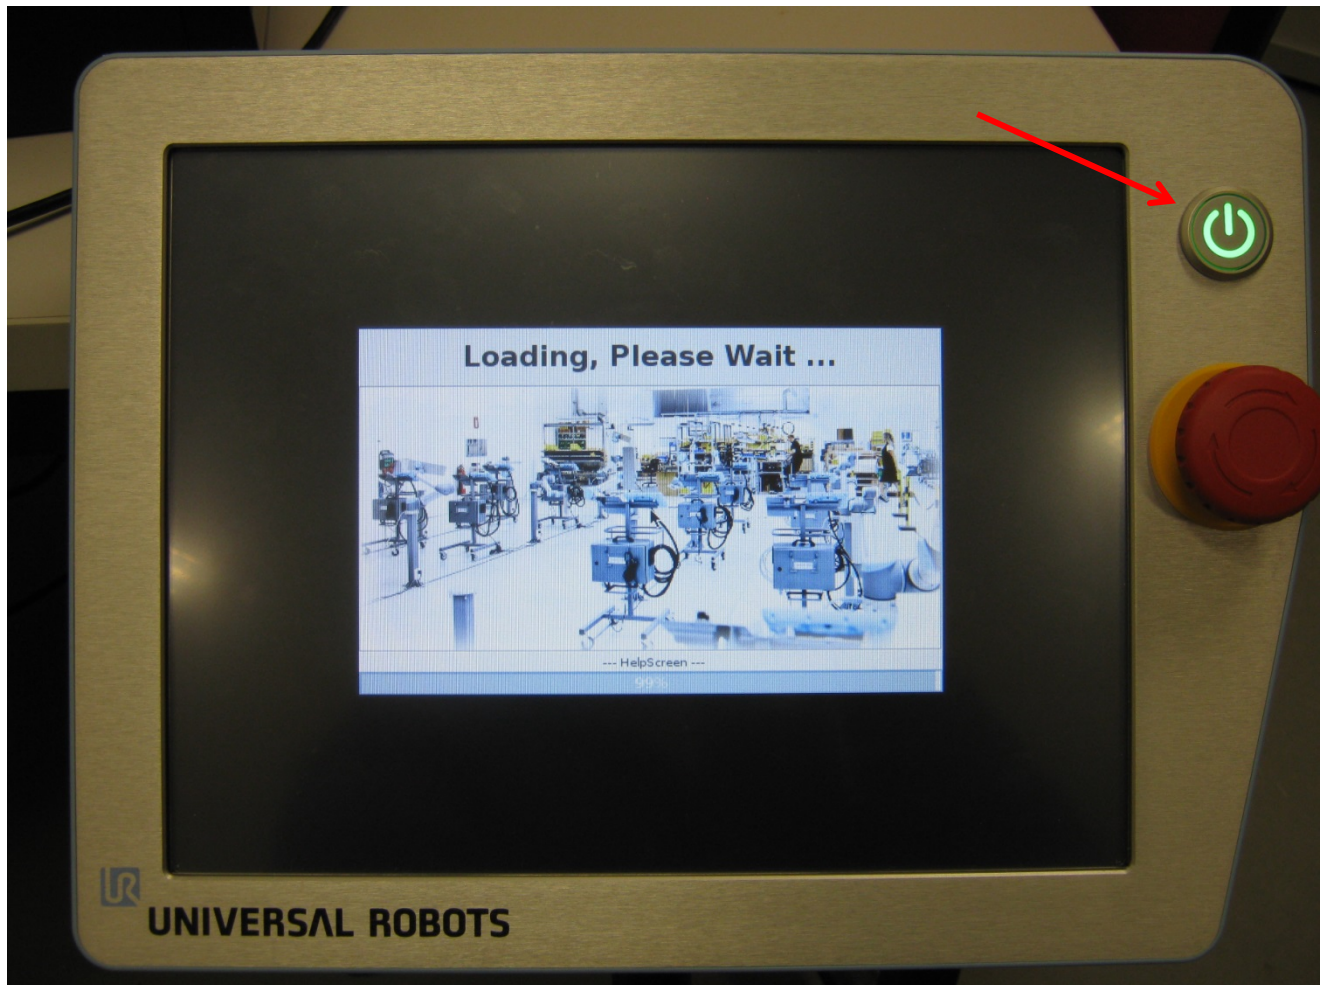

Figure 4 The pendant with the power button shown.
5. Turn on the power to the robot. The button is located on the front of the robot pendant above the E-stop (see Figure 4).